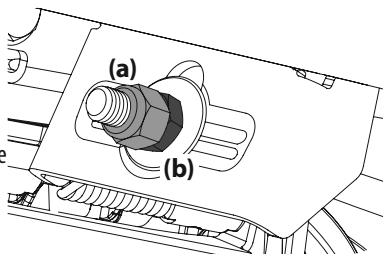

Figure 36
5. To raise the front of the deck, remove the end cap, loosen the outer jam nut (a) then tighten (thread inward) the inner nut (b) against the front hanger bracket. See Figure 36. When proper adjustment is achieved, re-tighten the outer jam nut (a) and replace the end cap.
6. To lower the front of the deck, remove the end cap, loosen the outer jam nut (a) then loosen (thread outward) the inner nut (b), away from the front hanger bracket. See Figure 36. When proper adjustment is achieved, re-tighten the outer jam nut (a) to 57 ft-lbs. (77.28 N·m) and replace the end cap.